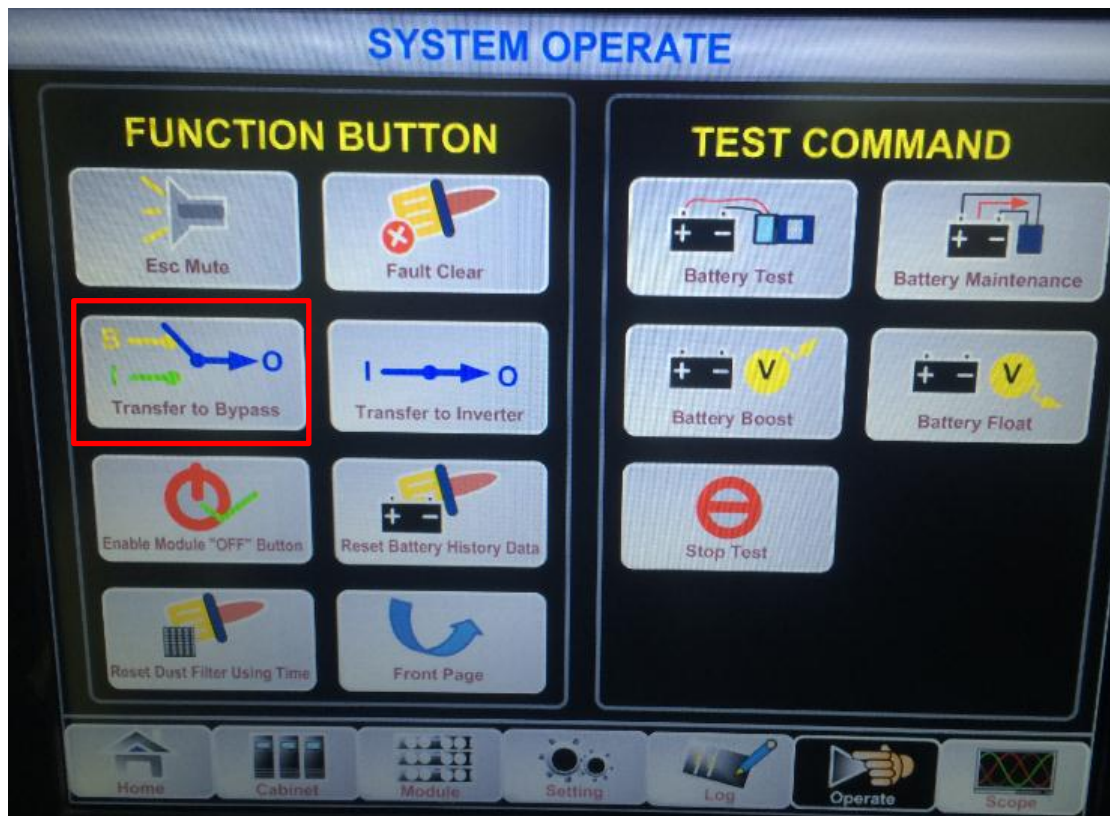

Figure 11 Manual bypass function
13. Click any cabinet function “Transfer to Bypass” on the LCD, as is shown in figure 11, all cabinets should go to bypass mode synchronously.